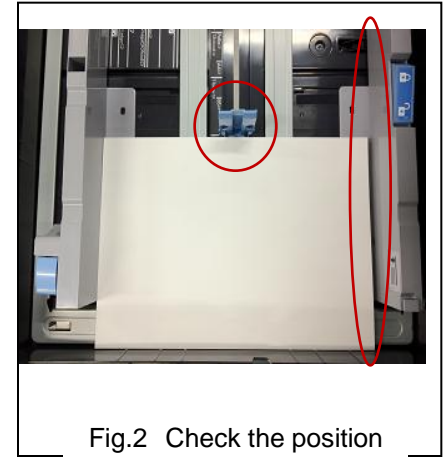

Fig.2 Check the position of the Cassette Cursor
b. Check whether the position of cassette cursor is properly set against the paper. (Fig.2)